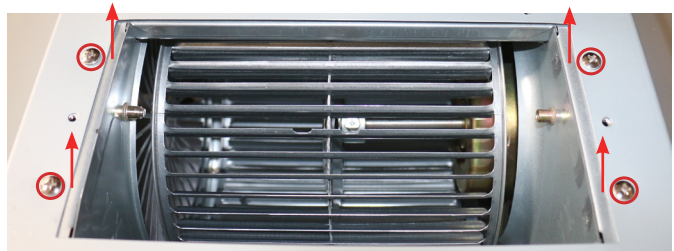

Figure 7
- Remove all 4 screws holding the blower casing. (Figure 7)